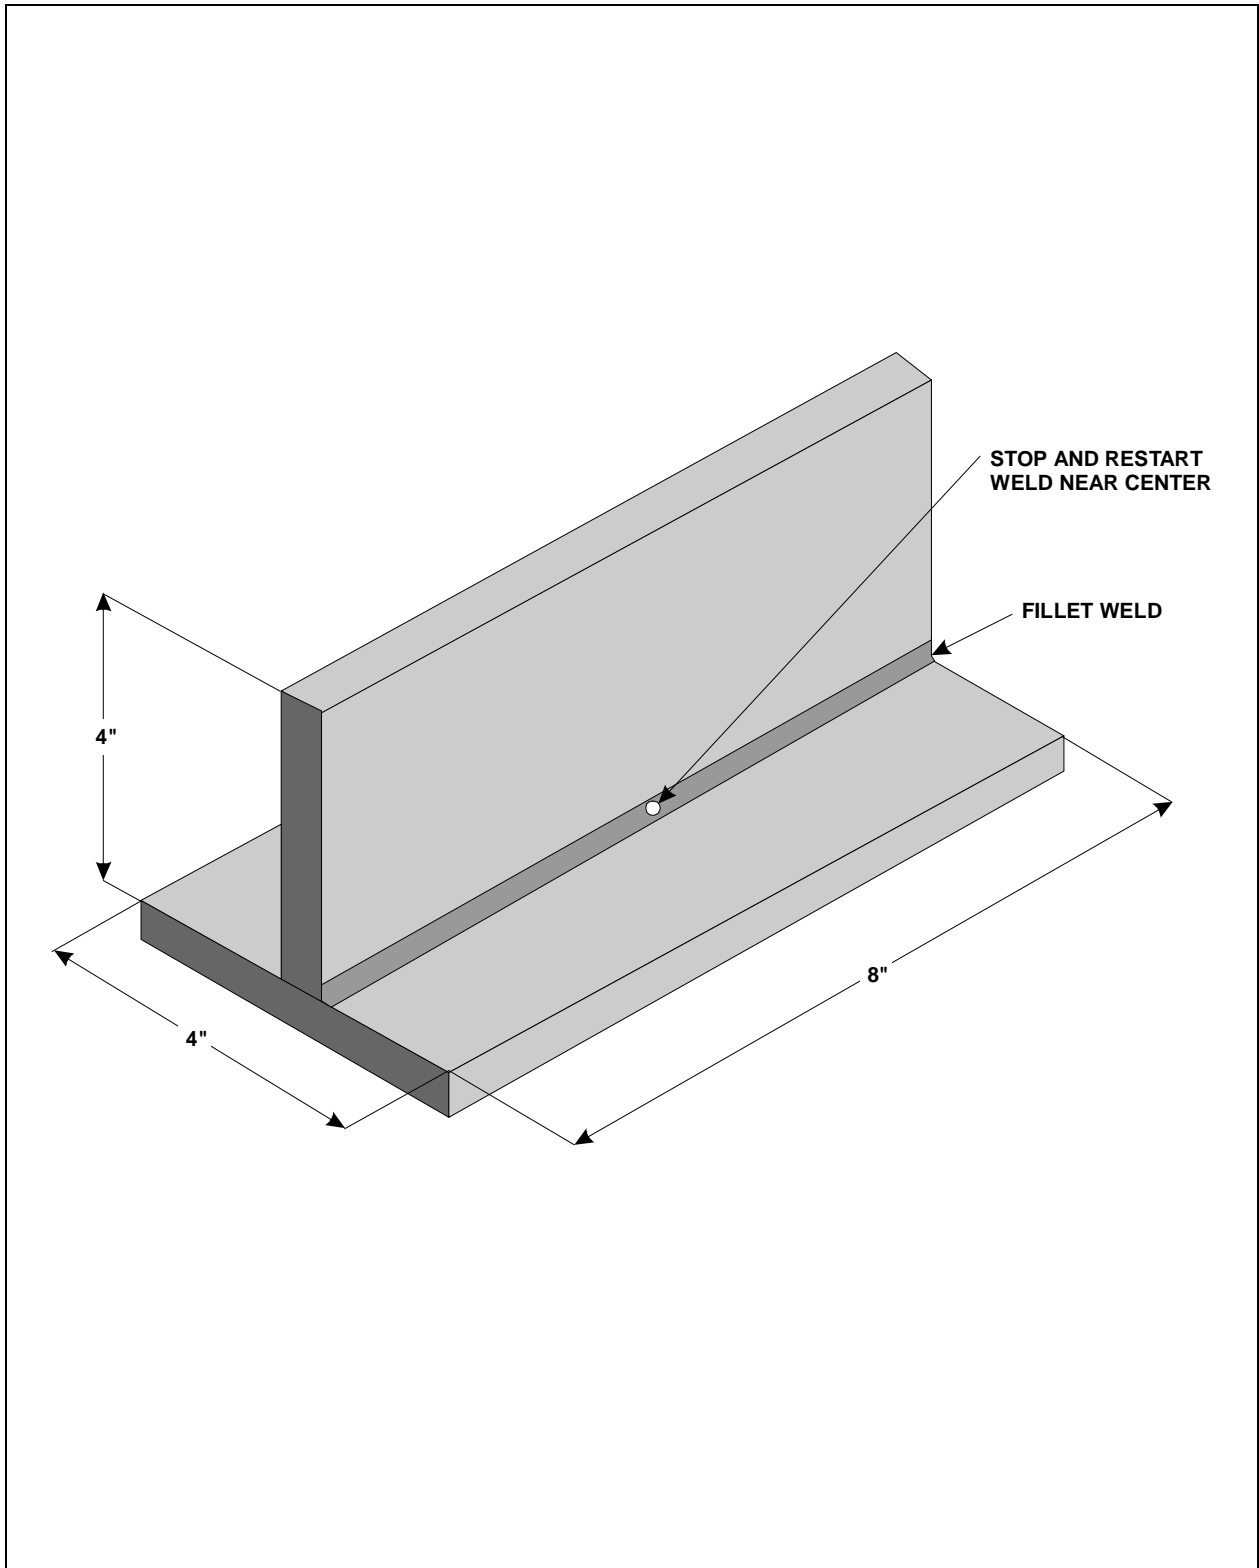

Figure 3-1. Test Specimen for Tee Fillet Weld.
- a. Cut a small sample of the material to be welded and make a Tee fillet weld specimen similar to the one illustrated in Figure 3-1.